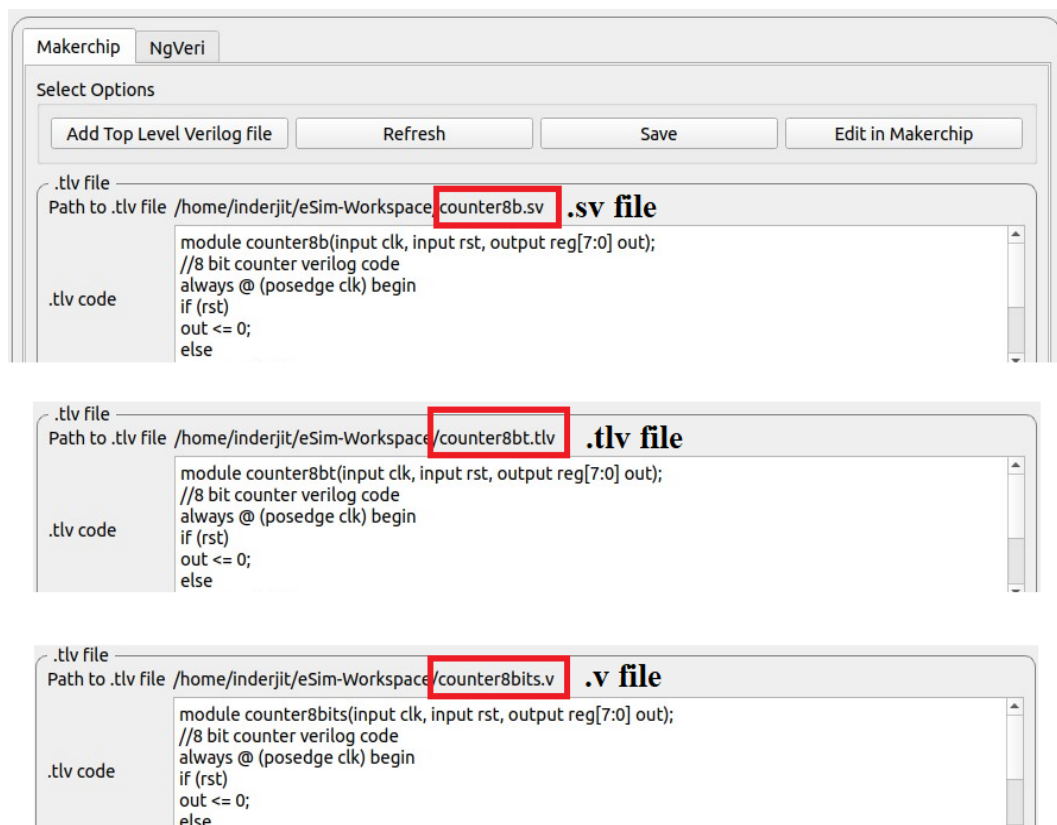

Figure 10.42: File extension allowed in NgVeri
1. In Makerchip tab, when the user clicks on Add Top Level Verilog button to load the file, the allowed file extension's should be either .v, .sv or .tlv as shown in Fig. 10.42. It will not accept any other file extension.